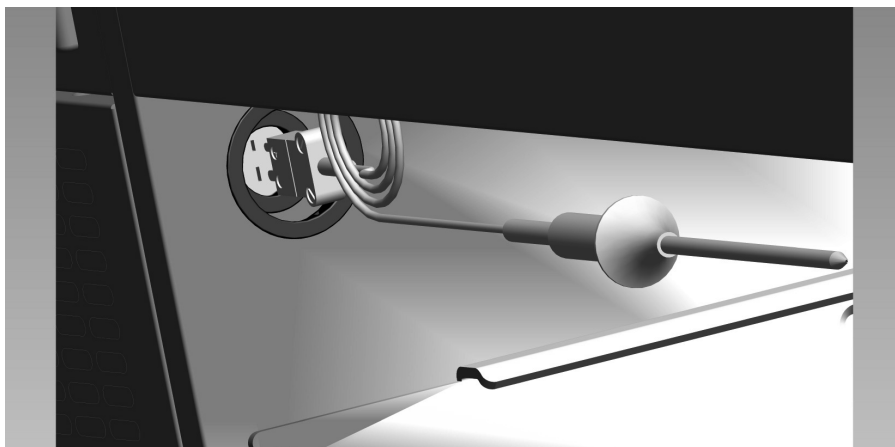

FIGURE 7
7. Insert the Product Probe plug into the receptacle found on the inside left side the cabinet (see **Figure 7**).